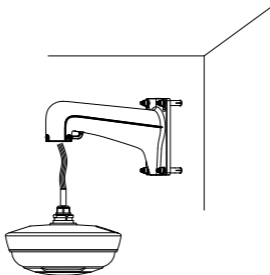

Figure 2-15 Install the Camera
- 1) Align the camera with the bracket, and push the camera into the bracket, as shown in Figure 2-15.